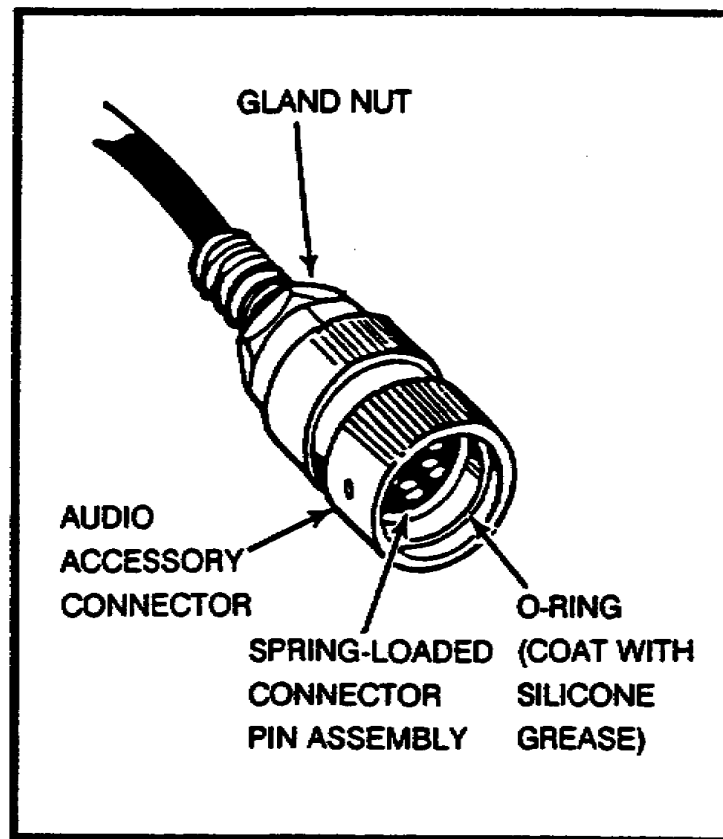

Figure 12. Audio accessory connector.
p. See Figure 12. To ease the connection of the audio accessory plug to the component audio jack, put a light coating of silicone grease on the audio accessory plug O ring. When connecting the audio accessory plug to the audio jack on the component, position the flat side of the plug at the top of the audio jack, push in on the plug, and turn it clockwise until the plug locks onto the jack.